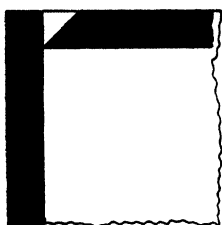
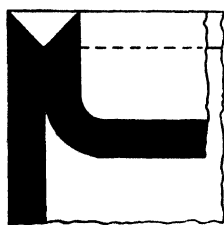

Fig. 62. Head Weld for Storage Tanks
Fig. 63. Head Weld for Medium-Pressure Tanks
**Storage Tanks.** In the case of putting on a flat head, the edge of the head only is chamfered, Fig. 62, while in putting in a flanged head where an edge weld is to be executed, as in Fig. 63, both shell and head are chamfered to make the V-groove.